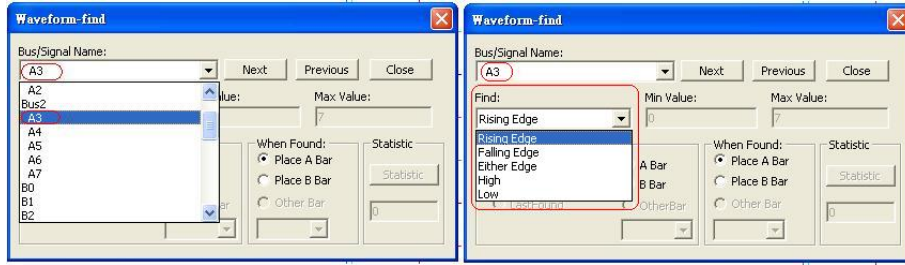

Fig 3-75: Waveform-find Dialogue of the Logic Signal
- Step 3.** Choose which attribute to find. The list of attributes depends on whether it is a Bus, Signal, or the special protocol bus such as IIC/ UART/ SPI...etc that is being searched (see Figs 3-75, 3-76, 3-77, 3-78, 3-79, 3-80, 3-81 and 3-82).